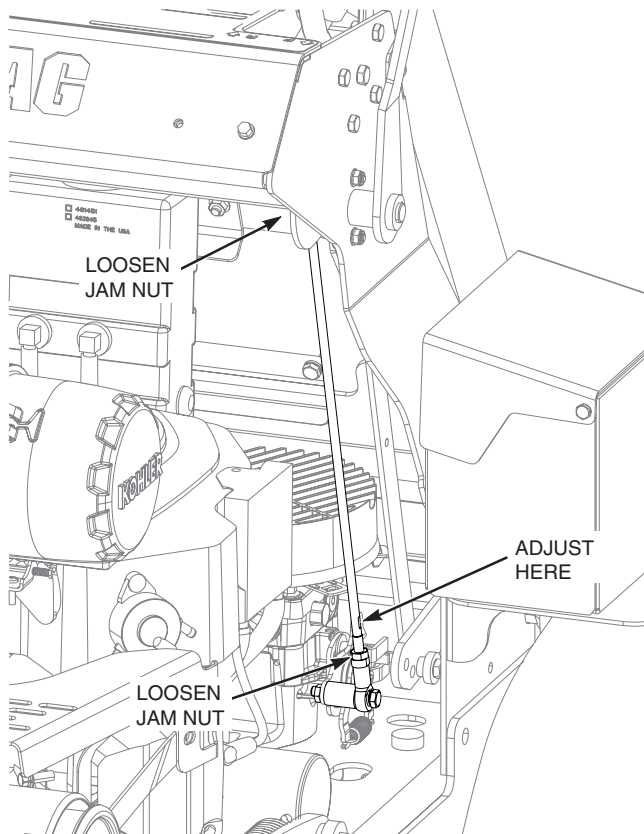

Figure 6-2. Tracking Adjustment (Left Side Shown)
4. Adjust the LH wheel by loosening the jam nuts on the steering control rod and turning the rod until the drive wheel turns in the forward direction. Turn the rod back until the drive wheel stops moving. Turn the rod an additional 1/2 turn. See Figure 6-2.
A. Stop the machine and place the steering control levers in the neutral position. Loosen the lock nuts securing the ball joints at each end of the LH steering control rod. Rotate the control rod to lengthen the rod and tighten the lock nuts. This will cause the control rod to stroke the LH pump less, slowing down the LH wheel. See Figure 6-2.
A. Stop the machine and place the steering control levers in the neutral position. Loosen the lock nuts securing the ball joints at each end of the RH steering control rod. Rotate the control rod to lengthen the rod and tighten the lock nuts. This will cause the control rod to stroke the RH pump less, slowing down the RH wheel. The same adjustment is used for the RH side as shown in Figure 6-2.